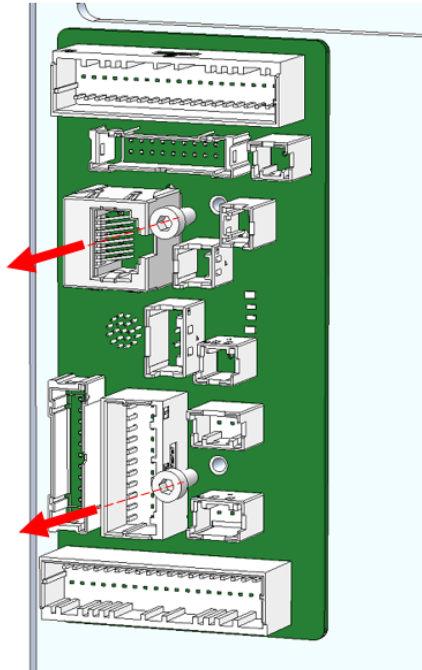

Figure 5-19 Removal of IO-free-distribution PCBA
- Step 3** Use the 2.5 mm Allen wrench to loosen the fastening screws on the IO-free-distribution PCBA and remove them. The position of the screws is shown in Figure 5-19.